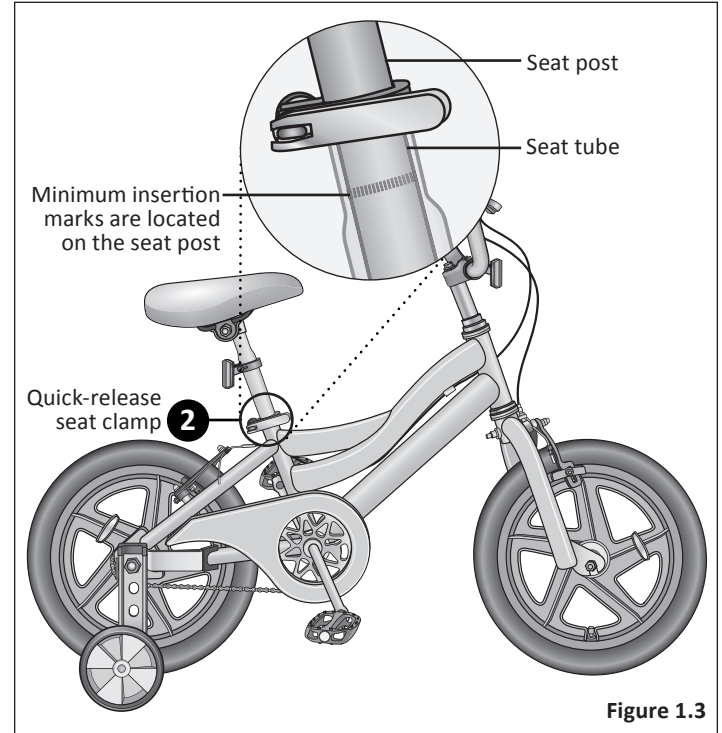

Figure 1.3
- 2 Ensure the seat post's *minimum insertion marks* are **not** visible above the seat clamp and the clamp is locked in place. **Figure 1.3**